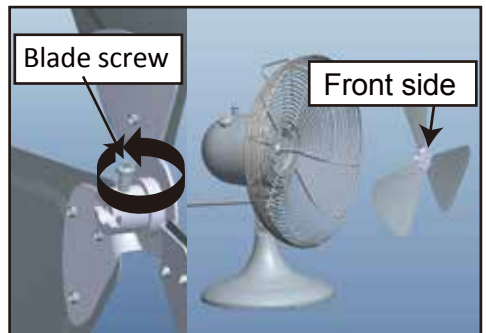

Figure 3.
3. Remove the plastic sleeve from the motor shaft. Loosen the screw at the back of the **Fan Blade**. **Figure 3**